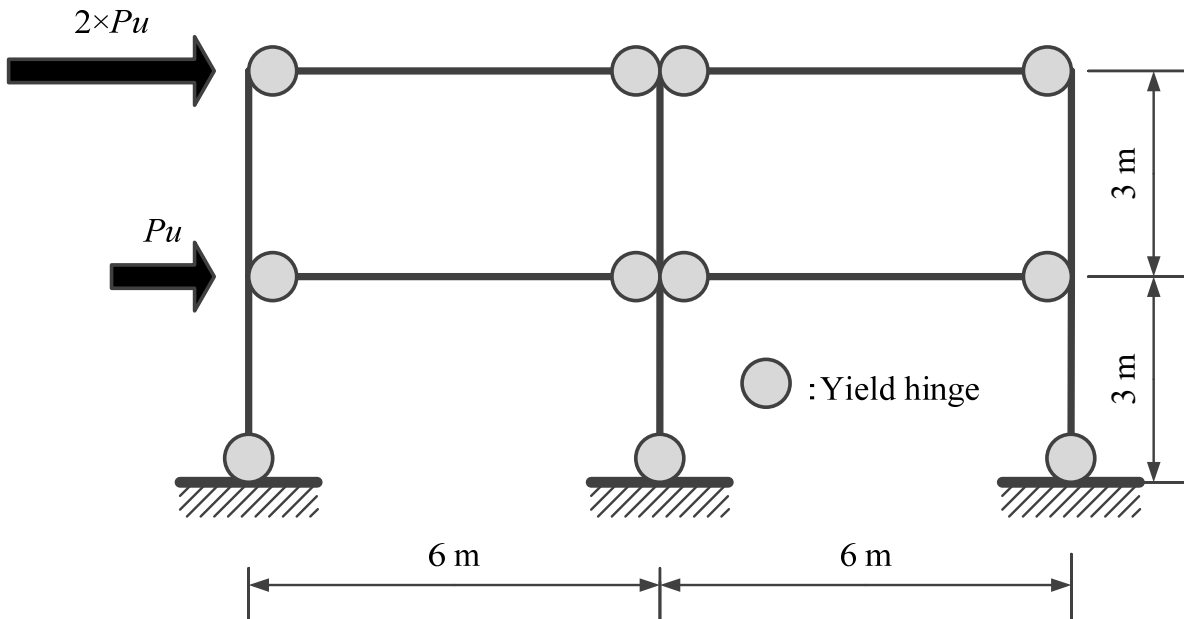

Figure 2
- (1) Calculate Pe and story shear for the first story, Q_1 .
- (2) Draw the moment diagram.
- (3) Calculate the axial forces in "Column 1" and "Column 2" due to the lateral forces, and show their directions (compression or tension) .
P_e is increased gradually. The both ends of all beams and bottom of the 1st floor column form yield hinges at P_u , and the frame forms the collapse mechanism as shown in Figure 2. Answer the following question (4).
(4) The ultimate bending strengths of all beam ends and the bottom of the 1st floor columns are $27\text{kN}\cdot\text{m}$ and $45\text{kN}\cdot\text{m}$, respectively. Calculate P_u .